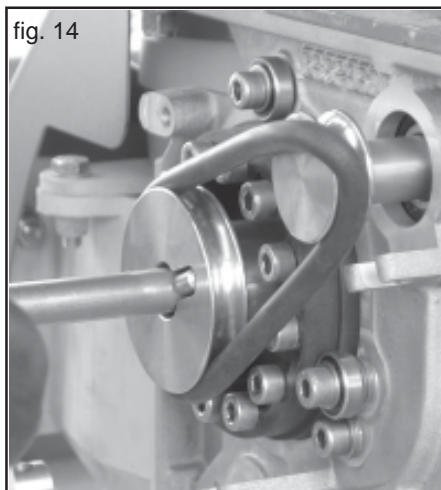

fig. 14
- To disable the agitator, lift the round belt above the edge of the drive pulley and, on the opposite side, rotate the dosing roller in the driving direction. The belt will come off (Fig. 14).